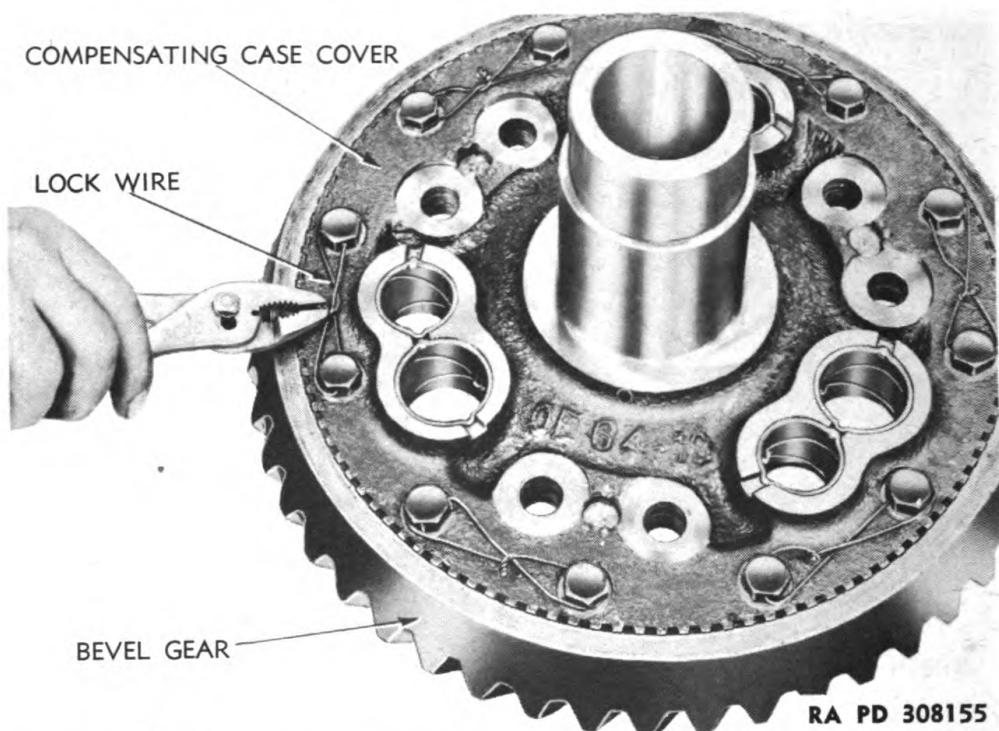

Figure 53 – Installing Bevel Gear on Compensating Case Cover
(4) ASSEMBLE DIFFERENTIAL GEAR ASSEMBLY. Lay bevel gear on bench, line up bolt holes in bevel gear with those in left compensating case cover and lower cover into gear. Attach to gear with 12 drilled head cap screws. After cap screws are tightened securely, install lock wire in each pair of cap screws, crossing wires (fig. 53).